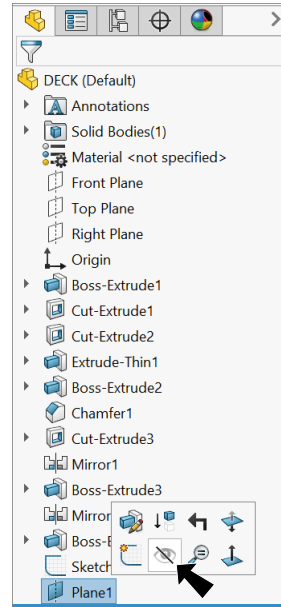

Fig. 84
Step 1. **Hide Plane1** . To hide, click **Plane1**  in the graphics area and **Hide**  on the context toolbar, **Fig. 84**.